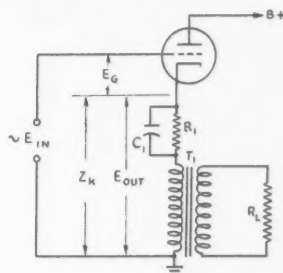
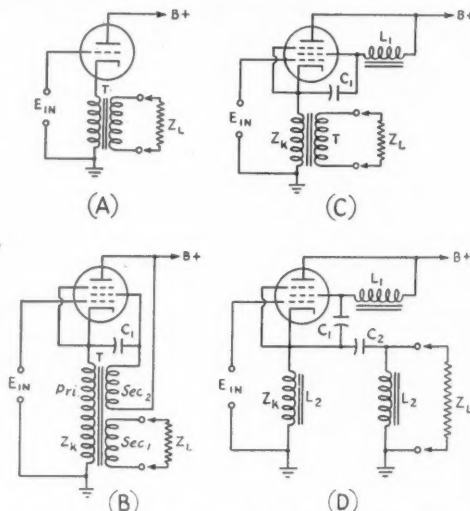
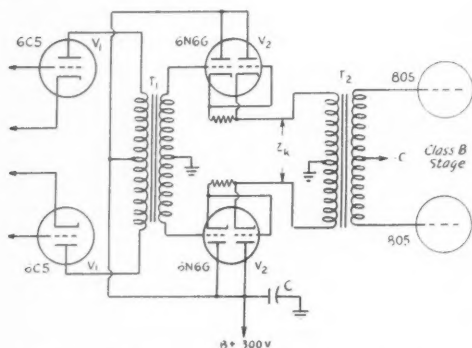

Fig. 1 — Triode cathode-follower power amplifier.
Fig. 2 — Single-ended stages with cathode coupling.
Fig. 4 — Cathode-coupled push-pull triode stage.
For an explanation of the amplifier characteristics referred to above, let's examine Fig. 1. This is the simplest type of cathode-follower power amplifier. In this circuit R_1 is used to supply additional bias since the d.c. resistance of the output transformer primary is generally too low to provide adequate bias. Condenser C_1 is of such a value that its reactance is negligible at the lowest frequency. If this is so, then the cathode impedance, Z_k , will be the primary impedance of the transformer T_1 . This impedance will, of course, be a complex impedance, but over the mid-frequency range may be considered as resistive. Assuming that a signal in the mid-frequency range is applied, on the positive half of the cycle the grid is driven positive which increases the plate current. This current flowing through the cathode impedance will produce a voltage drop making the cathode more positive with respect to ground. With respect to ground, the cathode and grid voltages are in phase. The effective driving voltage, however, is the voltage between the grid and cathode, labeled E_g , and, since E_{in} and E_{out} have the same polarity with respect to ground, they are effectively in series across the grid-to-
It is this feature which provides good frequency response with poor-quality transformers. For example, a common way of reducing the cost of a transformer is to reduce the number of turns. This results in lower inductance and poor low-frequency response. However, in the cathode-follower circuit, the decreasing impedance of the transformer primary with a decrease in frequency which results from the decreasing reactance of the primary inductance, causes the phase of the output voltage to change with respect to the input voltage. Thus the cancellation will be less and E_o will increase, causing the tube to be driven harder. For an explanation of the good-regulation feature, reference again is made to Fig. 1. With E_{in} constant, any tendency for E_{out} to rise, as might accompany the sudden removal of the load, would reduce E_o , and this in turn would reduce E_{out} , thus tending to stabilize the output voltage for any given input voltage, regardless of any decrease in load from full load. This regulation also can be seen from the formula for voltage gain of a triode cathode-follower. The voltage gain is
Thus far the discussion has been devoted to the use of triodes. Pentodes or beam tubes also may be used and are even superior to triodes. Their use requires an additional provision to keep the cathode and screen at the same a.c. potential so that true pentode operation may be secured. In a conventional amplifier the screen grid is bypassed to ground, as is usually the cathode. The screen therefore is maintained at a constant d.c. potential above the cathode but they are both at effective a.c. ground potential. The input signal then causes the plate voltage to vary up and down while the cathode and screen voltages remain fixed. In a cathode-follower circuit, however, the plate voltage remains constant and the cathode rises and falls in accordance with the input signal. Thus, if true pentode operation, and as a consequence full power output, is to be obtained, the screen grid must be made to rise and fall with the cathode. Two methods of accomplishing this are shown in Figs. 2 (B) and 2 (C). Fig. 2 (B) makes use of a special transformer, T , with a third winding, labeled Sec_2 . This winding has the same number of turns as the primary, $Pri.$, and is connected so that the screen and cathode voltages are in phase. It can be readily seen that if Sec_2 and $Pri.$ have the same number of turns, there will always be a fixed voltage difference between the screen and cathode. This voltage difference will be equal to the d.c. voltage applied to the screen. The condenser C_1 is added to make negligible any variation in the transformer construction and to insure zero phase difference between the two voltages. Its value should be large so that the reactance is small at the lowest frequency. In Fig. 2 (C) the same
Four types of single-ended cathode-follower power-amplifier circuits are shown in Fig. 2. No provision for d.c. bias is shown since this may be added in a similar manner to that shown in Fig. 1. Fig. 2 (A) uses a triode and has been fully covered in the foregoing discussion. Although Figs. 2 (B) and 2 (C) are shown using pentodes, the circuits are equally applicable to beam tubes. The difference between these two circuits is the manner in which true pentode operation is obtained. The gain and power output is the same for both. Since tube data usually give the transconductance instead of the μ for pentodes, the following formula is to be preferred in calculating the gain of single-ended pentode or beam-tube cathode-followers.
How this knowledge of the gain is made use of will be covered in more detail in the design section which follows. Fig. 2 (D) utilizes a single-section high-pass π filter as the coupling network. Again a pentode has been used for illustrative purposes, although a beam or triode tube might be used as desired. The gain is calculated from Eq. (4) and Z_k may be assumed to be equal to Z_L . In designing this coupling network, F_c , the cut-off frequency, is chosen to be slightly lower than the lowest frequency it is desired to pass, and the capacity of C_2 is given by
The push-pull versions of the circuits in Fig. 2 are shown in Figs. 4, 5, 6, and 7. Fig. 4 uses a pair of 6N6Gs to represent the triode-type of cathode-follower. The 6N6G actually is two triodes con-
The design procedure for the triode cathode-follower stage in Fig. 4 starts with the selection of the Class-B input transformer, T_2 . If the Class-B stage is assumed to be a pair of 805s, the peak load represented by their grids will be approximately 5000 ohms across half of the secondary, and since the correct load for the 6N6Gs is 10,000 ohms, plate to plate, a transformer with an impedance ratio, primary to one-half the secondary, of 2 to 1, or a turns ratio of 1.41 to 1, will be required. The tube manual supplies the information that the 6N6Gs will deliver 8 watts of power across this 10,000-ohm load. The peak voltage delivered across this load will be